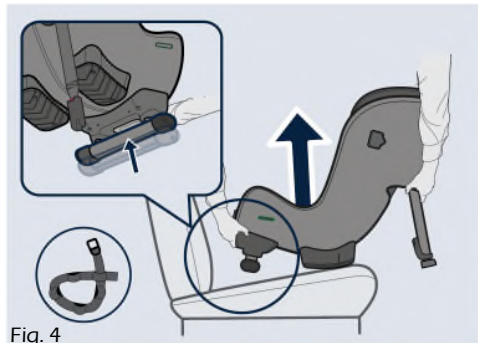

Fig. 4
4) Press the recline adjustment lever (G) and push in the recline angle adjuster (T) to its shortest position. Lift the HERO-XL out of the vehicle (Fig. 4).